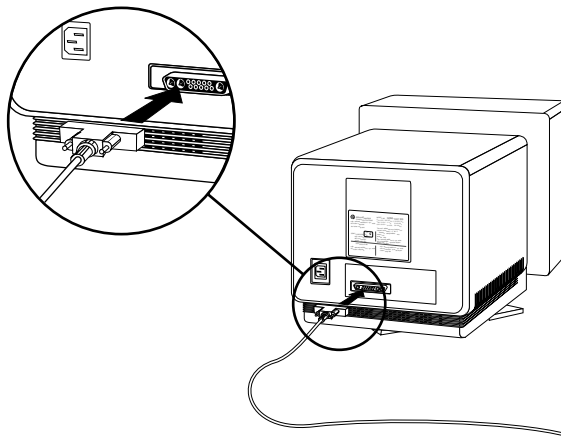

Figure 5-11 Connecting the Stacked Monitor's Cables to the Monitors
3. Connect the other end of the cable monitor connector on the back of the Indigo² chassis, as shown in Figure 5-11. Use the following tables to determine the correct connector on the I/O panel.